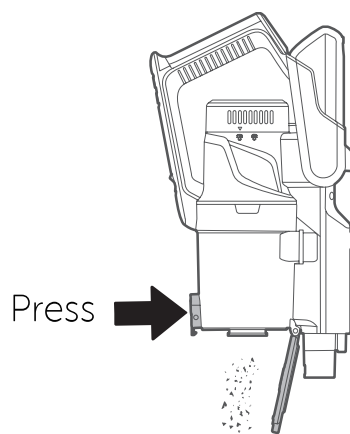

Fig.12
2. Press the lever at the front of the container to open the base (fig. 12) and empty the container. Gently tap the container against the side of the bin to remove any stubborn dust.